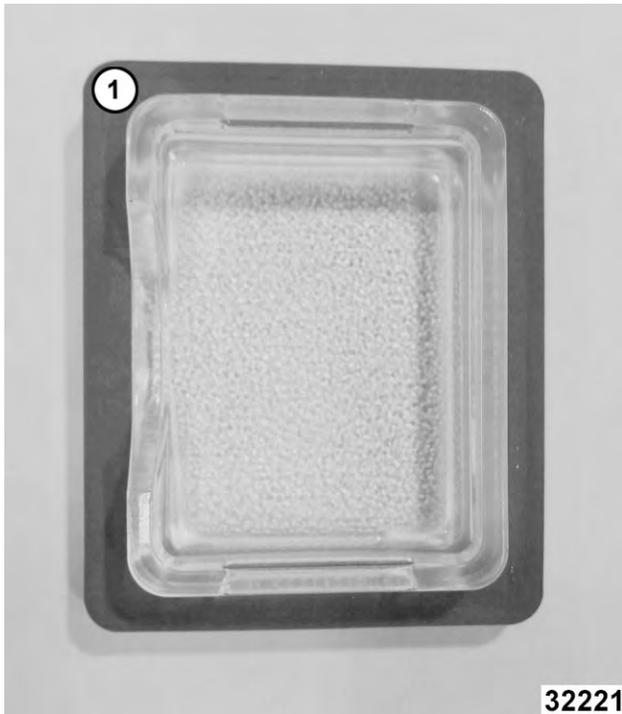

Fig. 56
**NOTE:** Verify gasket (1, Fig. 56) is flat on lamp cover and not damaged.